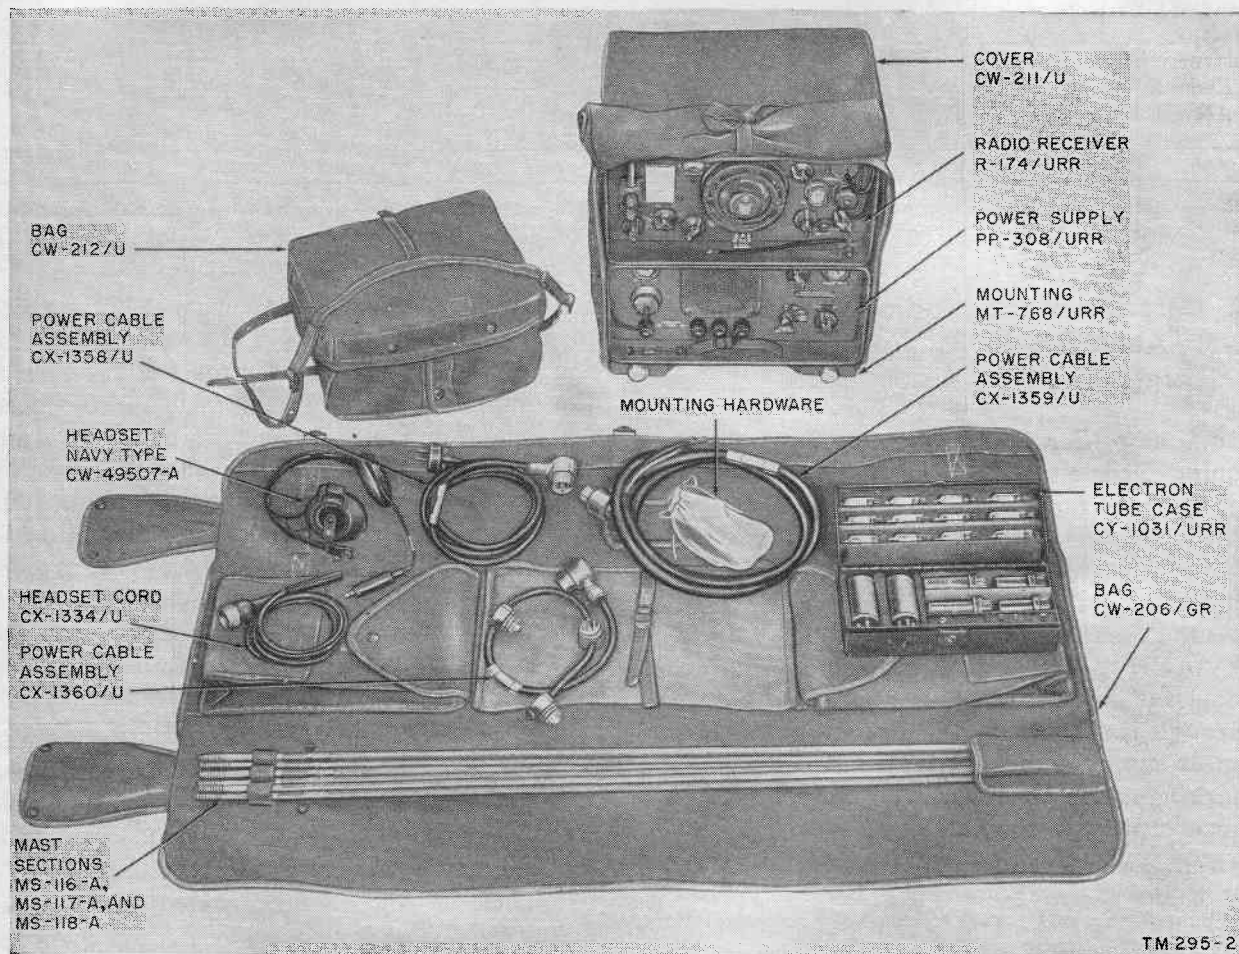

Figure 4. Radio Receiving Set AN/GRR-5, operating components.
b. Radio Receiver R-174/URR (figs. 4 and 12). Radio Receiver R-174/URR is an eight-tube superheterodyne receiver designed for reception of a-m or c-w signals within the frequency range of 1.5 mc to 18 mc. The receiver is secured into Electrical Equipment Cabinet CY-615/URR by four latches located on the sides of the case. The four holes located on the sides of the receiver are used as finger grips for removing the receiver from the case, and/or
c. Power Supply PP-308/URR (figs. 4 and 13). Power Supply PP-308/URR is designed to supply d-c voltages adequate to operate Radio Receiver R-174/URR. The power supply is secured into Electrical Equipment Cabinet CY-615/URR by four latches located on the sides of the case. The four holes located on the sides of the power supply are used as finger grips for removing the power supply from the case, and the two holes on the bottom skirt are for holding the straps of Cover CW-211 U. The power supply can be operated from a 115-volt a-c source in a fixed installation, or from a 6-, 12-, or 24-volt d-c source in a vehicular operation, or as a connecting point to the receiver from 90- and 1.5-volt batteries. The front panel contains the fuses, spare fuses, the var-
d. *Minor Components of Radio Receiving Set AN/GRR-5* (fig. 4). Included among the minor components of Radio Receiving Set AN/GRR-5 are the headset, headset cord, mast sections, and cable assemblies. See appendix II for complete descriptions.
Running spares are provided for all normally expendable items such as tubes, pilot lamps, and fuses. All running spares except the mast sections are stored in Electron Tube Case CY-1031/URR. The tube case and mast sections are stored in Bag CW-206/GR (fig. 4). Following is a list of running spares: